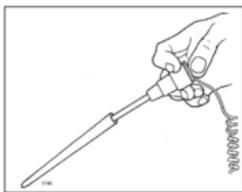

Figure 1-3
3.1.4. Note the displayed temperature and remove the probe. Hold the probe as you would a syringe and press the colored ejection button at the base of the probe to eject the used probe cover into a waste container (see Figure 1-3).
3.2.3. Note the displayed temperature and remove the probe. Hold the probe as you would a syringe and press the colored ejection button at the base of the probe to eject the used probe cover into a waste container (see Figure 1-3).
3.3.3. Note the displayed temperature and remove the probe. Hold the probe as you would a syringe and press the colored ejection button at the base of the probe to eject the used probe cover into a waste container (see Figure 1-3).